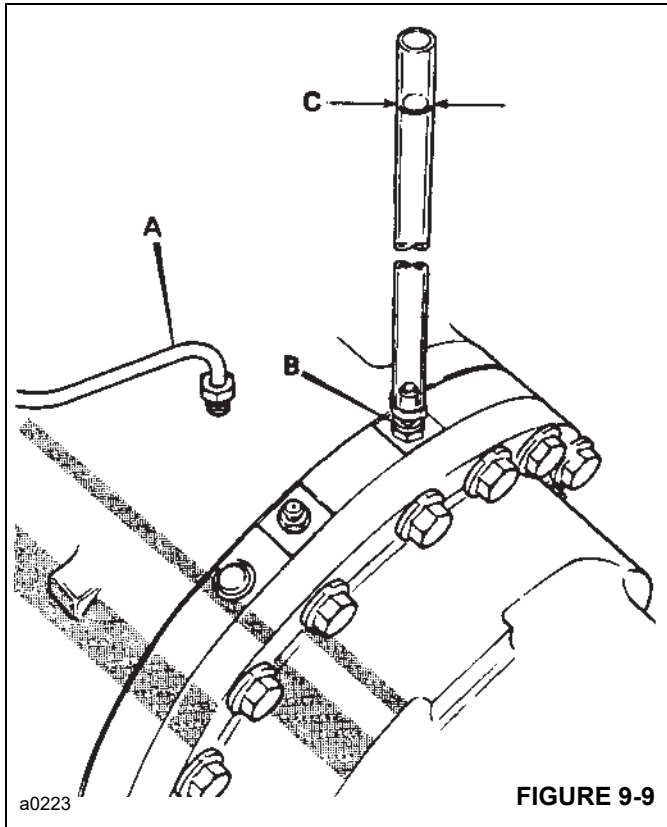

FIGURE 9-9
- a. Install an adapter fitted with a piece of clear tube (approximately 120 mm (4.75 in) long) to the brake piston port **B** Figure 9-9.